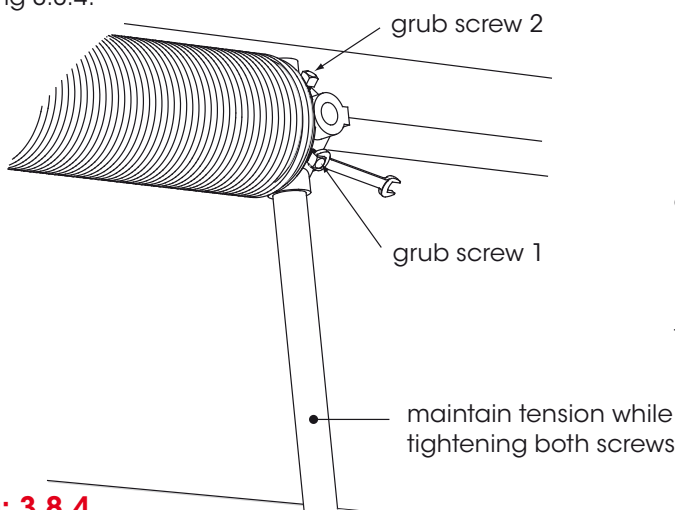

Fig: 3.8.4
d) Maintain firm tension on the winding bar, while using a spanner to tighten the two (2) grub screws. Fig 3.8.4.